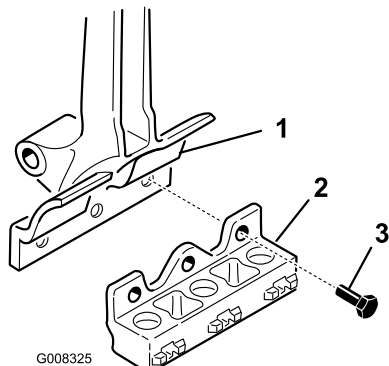

Figure 1
1. Install the tine heads onto the aerator stomper arms with three (3) 1/2 x 1-1/4 capscrews (Figure 1). Torque the capscrews to 70-80 ft-lbs.